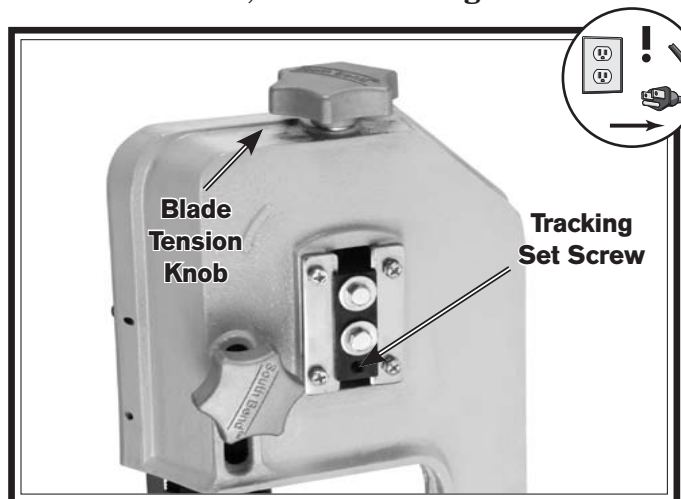

Figure 46. Adjusting tracking hex bolt.
5. Use the blade tension knob to release the blade tension, as shown in **Figure 46**.
6. Adjust the tracking set screw shown in **Figure 46**.